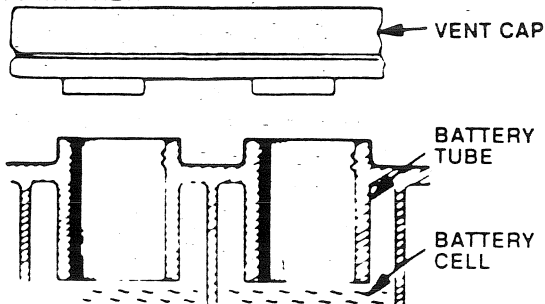

FIGURE 1
- a. Remove the tape from the battery cells. Fill each cell with acid. Add the acid until it reaches the bottom of the battery tube (Fig. 1). Do not add the acid beyond this level or additional acid can come out when the battery is charged.